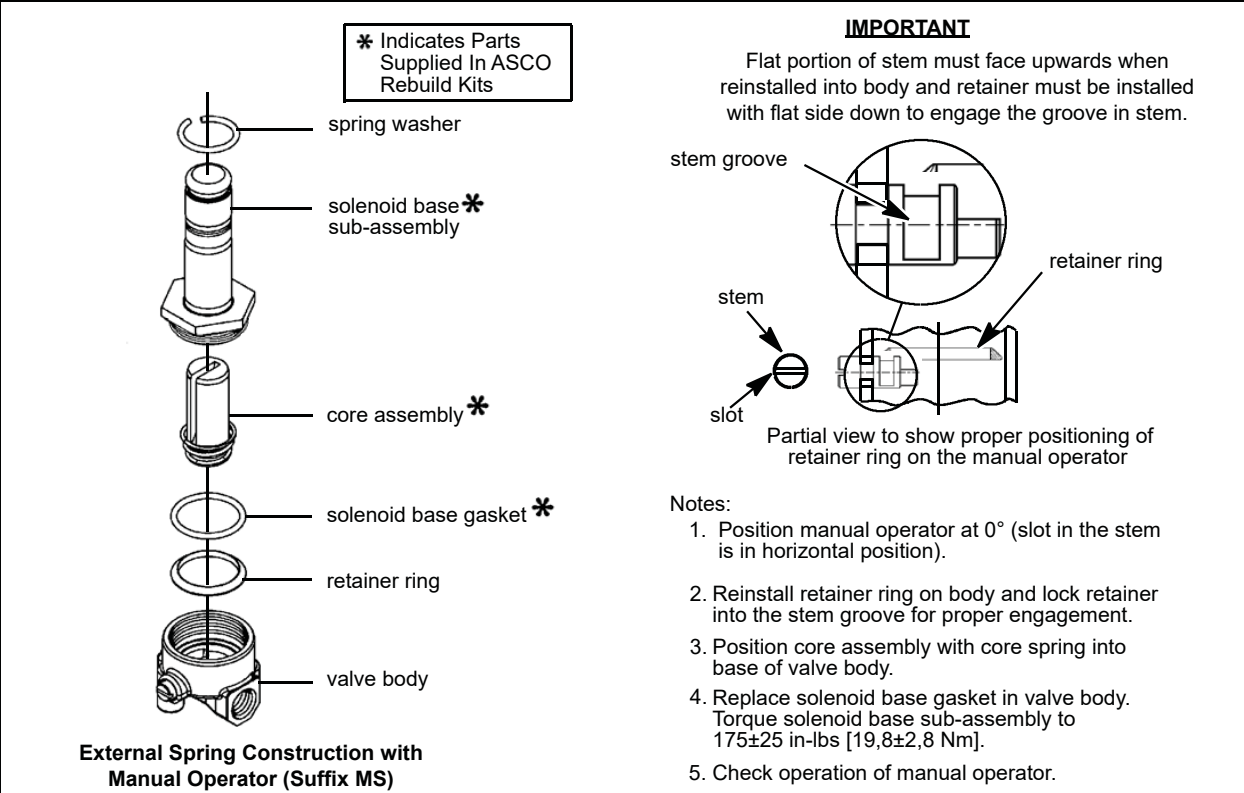

Figure 3. manual operator
Disassembly and Reassembly of Manual Operator (Refer to Figure 3)
- **Panel Mounted Construction:** These solenoids are specifically designed to be panel mounted by the customer through a panel having a .062 to .093 maximum wall thickness. (Refer to Figure 3 and section on *Installation of Panel Mounted Solenoid*).